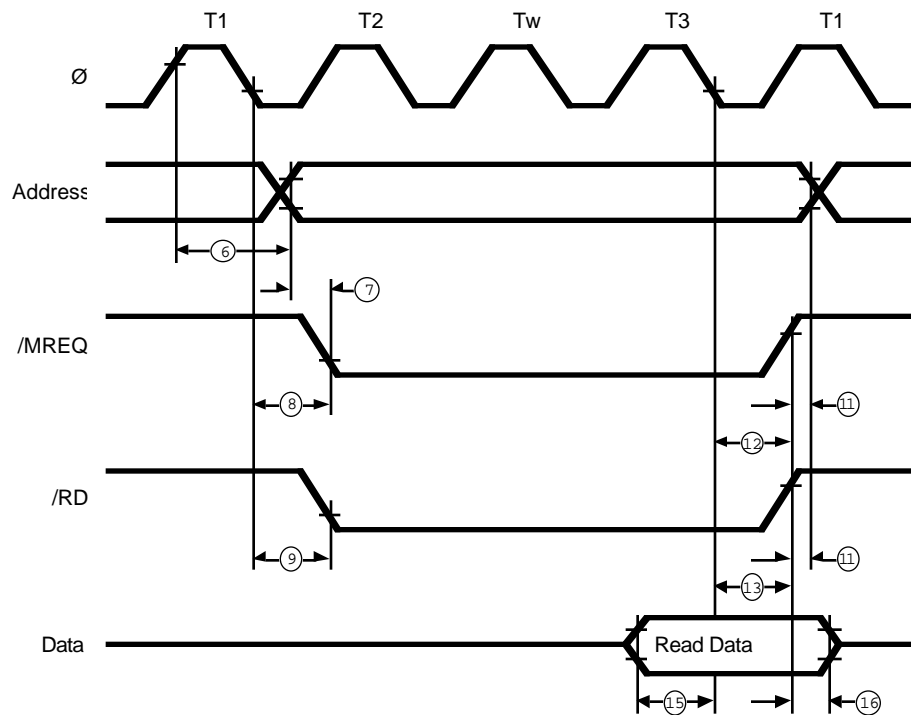

Figure 2. Z180 Memory Read Cycle Timing (One Wait State)
- Memory read cycle (Figure 2)